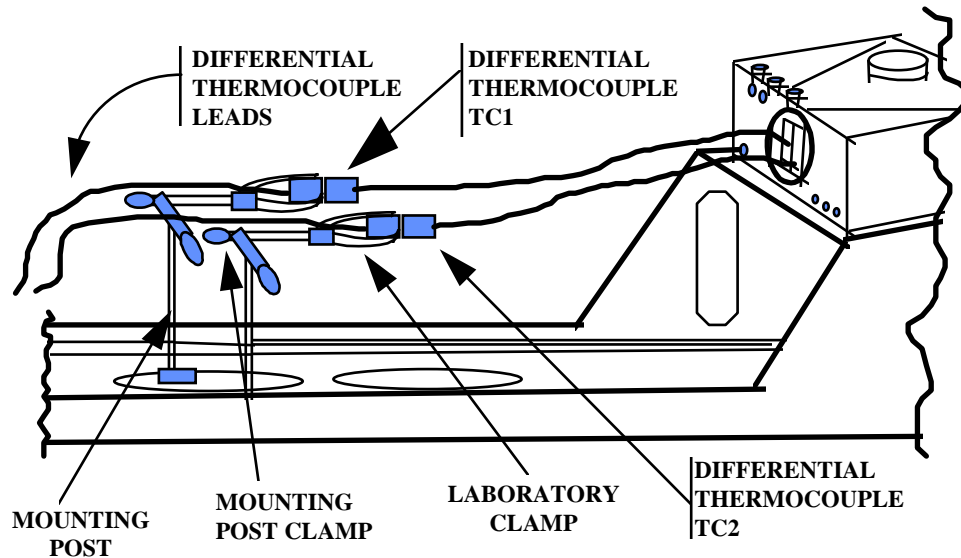
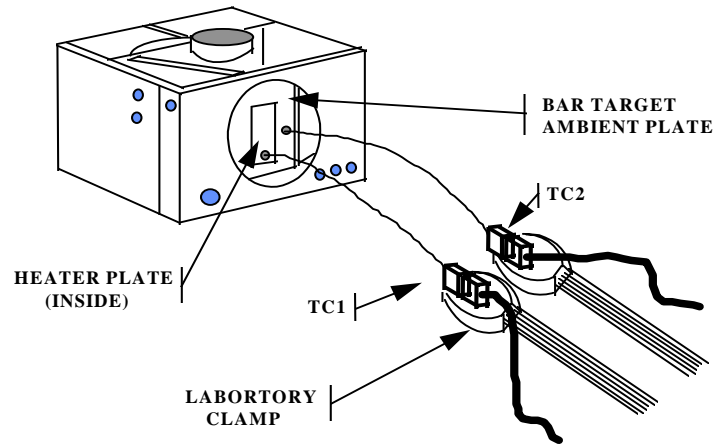

Figure 5. Equipment setup.
Figure 6. Thermocouple to heater plate setup.
- b. Connect equipment as shown in figure 5 and as described in (1) through (5) below:
- (1) Install thermocouple MOUNTING POST (pair) (fig. 5) on base of TI (approximately center of second slot pair from exit port).
- (2) Install thermocouple harness wire to thermocouples (connectors are keyed and labeled).
- (3) Clamp DIFFERENTIAL THERMOCOUPLE set (pair) in LABORATORY CLAMPS and install on thermocouple MOUNTING POSTS, using MOUNTING POST CLAMPS (fig. 5).
Avoid scratching internal edges of BAR TARGET (fig. 6) during application and removal of thermal conductive paste.
(4) Using the wood end of a cotton tip applicator, daub a small amount of thermal conductive paste on bottom of HEATER PLATE behind BAR TARGET (fig. 6).
(5) Place tip of thermocouple No. 1 (TC1) in thermal conductive paste against bottom of HEATER PLATE (INSIDE) BAR TARGET AMBIENT PLATE (fig. 6)
c. Perform steps (1) through (4) below:
(1) Loosen MOUNTING POST CLAMP (fig. 5) which holds LABORATORY CLAMP (fig. 6).
(2) Increase tension on thermocouple No. 1 (TC1) to produce a moderate bow in thermocouple wire by sliding LABORATORY CLAMP (fig. 6) forward (toward temperature controller) in MOUNTING POST CLAMPS; then tighten MOUNTING POST CLAMPS (fig. 5).
(3) If necessary, physically position thermocouple TC1 on HEATER PLATE to the position shown in figure 6.
(4) Daub a small amount of thermally conductive paste on exterior of TI BAR TARGET adjacent to placement of TC1 and place tip of thermocouple No. 2 (TC2) in the thermally conductive paste (fig. 6).
d. Repeat technique of c(1) through (3) above for thermocouple TC2 (fig. 6).
(4) Loosen MOUNTING POST CLAMP (fig. 5) on thermocouple No. 2 (TC2) and slide LABORATORY CLAMP (fig. 6) back (away from TI) in MOUNTING POST CLAMP until thermocouple is outside TI, then tighten MOUNTING POST CLAMP (fig. 5).
(5) Use cotton-tip applicator soaked in paste removal solvent to remove thermally conductive paste from exterior surface of BAR TARGET AMBIENT PLATE (fig. 6), then remove solvent residue using a dry cotton-tip applicator.
(10) Loosen HOLDING CLAMP (fig. 5) slightly.
(11) Increase pressure on thermocouple No. 2 to produce a slight bow in thermocouple wire by sliding LABORATORY CLAMP forward (toward TI) in HOLDING CLAMP, then tighten HOLDING CLAMP (fig. 5).
(12) Repeat technique of steps 9a(1) through 9a(3)(e) and record values on “MRT Target Temperature Worksheet”. Temperature error will be between -0.45 and $+0.45$ °C; if not, perform b(2) below and repeat this step.
(13) Deenergize and disconnect all leads.
(14) Perform steps in paragraph 10 for final procedure.